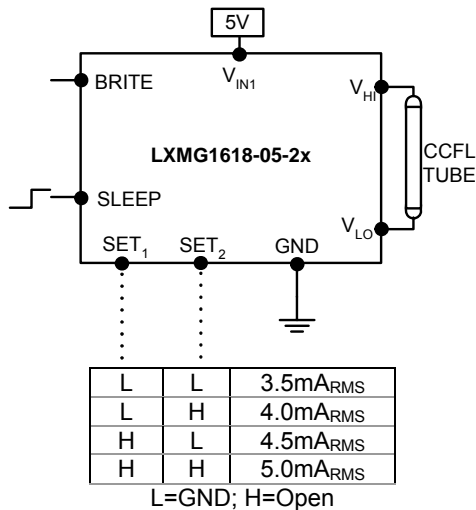

Figure 2 – Max Output Current
- Use the SET₁ and SET₂ (see Figure 2) inputs to select the desired maximum output current. Using these two pins in combination allows the inverter to match a wide variety of panels from different manufactures. Generally the best lamp lifetime and efficiency correlates with driving the CCFL at the manufactures nominal current setting. However the SET₁ and SET₂ inputs allow the user the flexibility to adjust the current to the maximum allowable output current to increase panel brightness at the expense of some reduced lamp life.